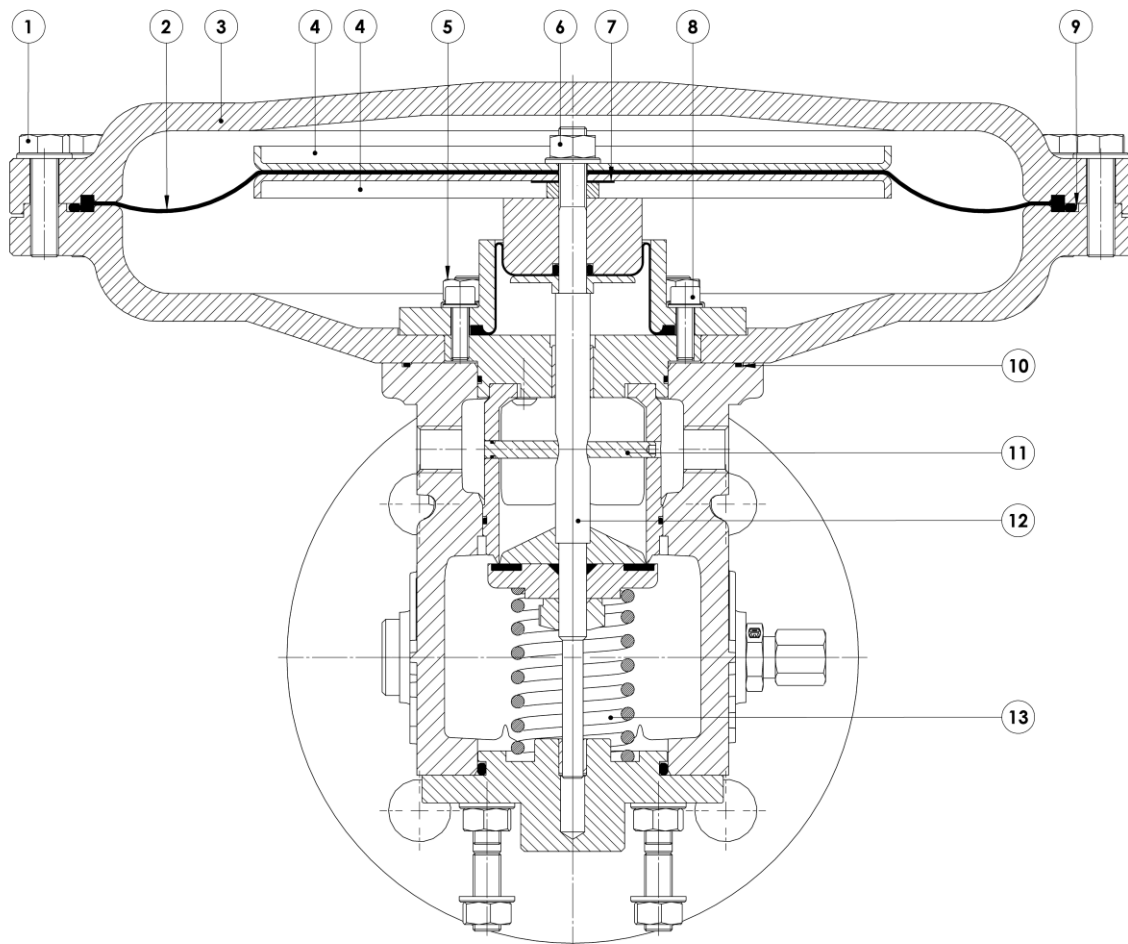

Figure 1
Remove both the pilot pressure regulator and the levelling valve by loosening the pipe connections on the regulator. Unscrew all M8 bolts (1) evenly (see figure 1), do not remove the bolts and washers, but leave them in position allowing them to be removed simultaneously with the removal of the top diaphragm case (3). Put the diaphragm case away so that the bolts remain positioned in their holes. Dismantle the M8 nut (6) with its washer.
The locking shaft (11) should be positioned so that it aligns with both threaded holes in the side of the regulator housing (see figure 1). With the label on the insert facing the outlet side, this is ensured.